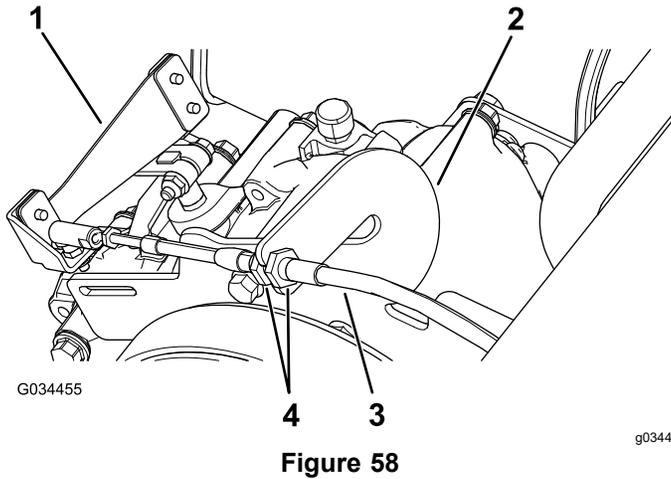

Figure 58
1. Loosen the jam nuts on the gear-shift cable and adjust them as necessary (Figure 58).
2. Test the gear-shift position by rotating the gear-shift selector to the 3 different positions and check to see if the shift lever (Figure 58) shifts properly when shifting the gears; refer to Gear-Shift Lever and Gear-Shift Indicator \(page 14\).